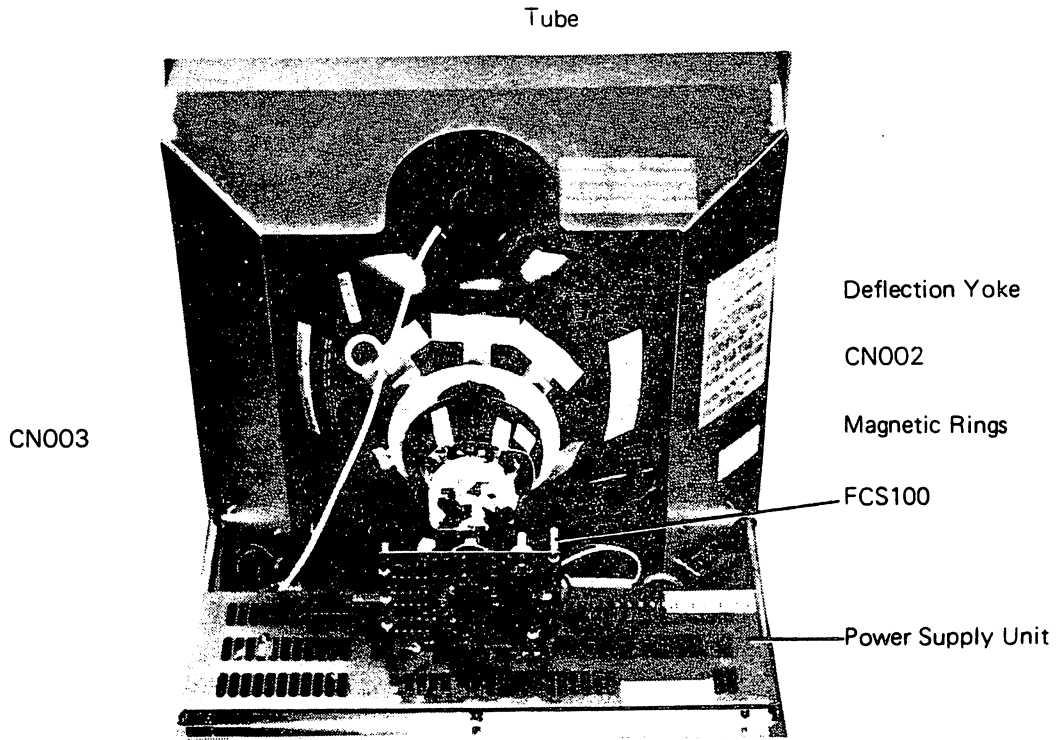

Figure 5-3 Top view of Monitor
Top views of the monitor and magnetic ring alignment are shown in Figures 5-3 and 5-4.
- 1) Remove the AC power connector CN002 and the signal connector CN003 at the back of the monitor. (Page 41 Figure 5-3)